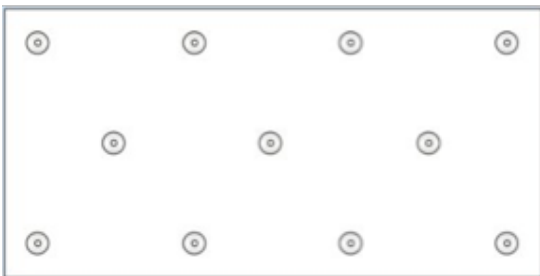
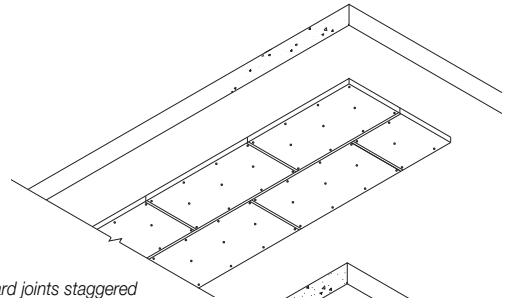

Figure 3 Fastener pattern (11 No. per board)
Figure 5 Board joints staggered
2. Board joints can be either staggered (see Figure 5) or squared (see Figure 6) and taped with 96 mm wide silver *Kingspan Insulation Tape*. 4 No. fasteners along each length - no less than 50 mm - no more than 150 mm from edge of board, 3 No. fasteners along the middle (offset from edge positions as per diagram Figure 3).